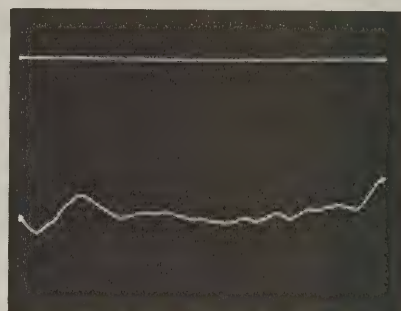

Figure 4-8. Typical Display with RF Blanking
- Oscilloscope display should be similar to typical display shown in Figure 4-8.